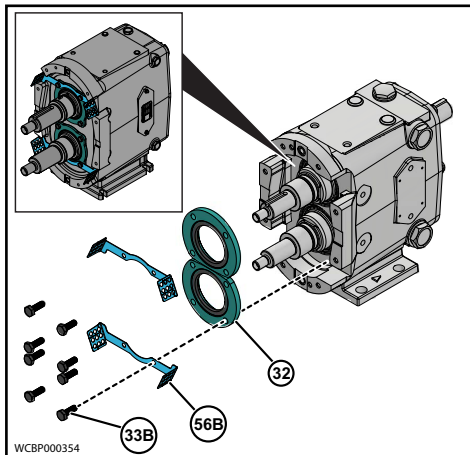

Figure 59 - Install Bearing Retainer and Seal Guard
NOTE: The Figure 59 is shown for reference only.
19. Install the Bearing Retainers (32) and Seal Guard-Horizontal (56B). Tighten them with bearing retainer screws (33B), as shown in Figure 59.